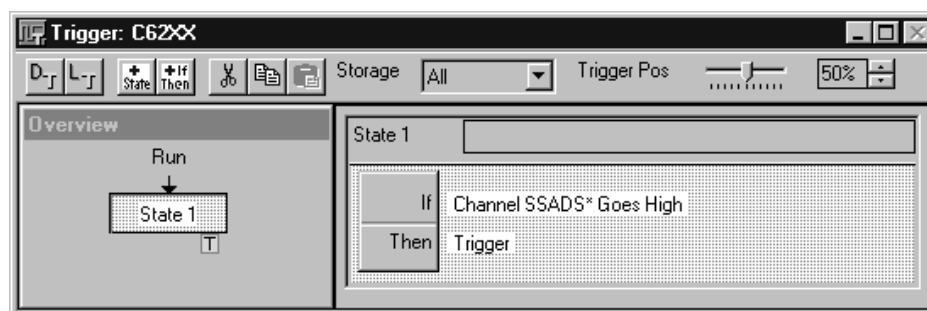

Figure 2–23: C6701 Trigger setup for any SBSRAM memory Read
11. Click the Trigger icon in the System window. The Trigger: C62XX dialog box appears with a predefined trigger. Figure 2–23 shows the setup to trigger.